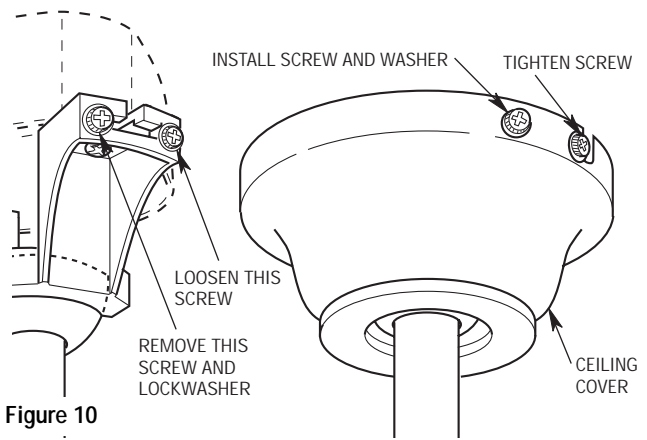

Figure 10
1. Remove the left screw and lockwasher from each side of the hanger bracket (Figure 10) and loosen the other two screws.
2. Lift the ceiling cover up to the hanger bracket. Engage the slots in the ceiling cover with the loosened screws in the bracket and turn the cover counterclockwise (Figure 10). Be sure that the lockwashers are between the screw heads and the ceiling cover.